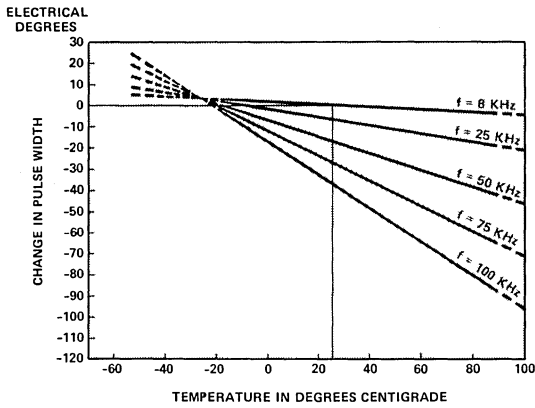

Figure 3. Typical Change in Index Pulse Width Due to Speed and Temperature
- In a properly assembled lot, 99% of the units when run at 25° C and 8 KHz should exhibit an index pulse width greater than 260 electrical degrees and less than 460 electrical degrees. To calculate index pulse widths at other speeds and temperatures add the values specified in Figures 3 or 4 to the typical 360° pulse width or to the maximum 99% values specified in this note.